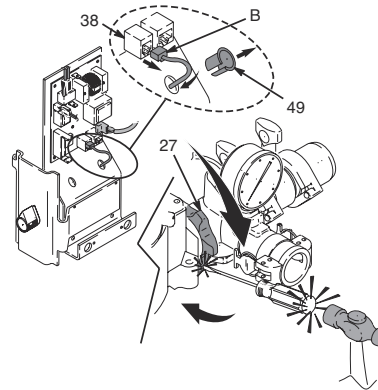

FIG. 10
4. Release hopper quick-release clamp (28).
5. Disconnect pump module (A) from frame (35).
6. Remove five screws (12) and motor cover (18).
7. Fig. 10. Disconnect transducer connector (B) from control board (38). Pull strain relief from bracket. Thread transducer connector through bracket.
9. Pry retaining spring (76) up on connecting rod (45). Push pin (75) out with a screwdriver.
10. Fig. 10. Loosen retaining nut (27).
3. Tighten retaining nut (27).
4. Push pin (75) in with a screwdriver. Push retaining spring (76) down on connecting rod (45).
5. Fig. 10. Connect transducer connector (B) to motor control board (38).